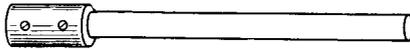

FIG. 11-10. A volume-control extension shaft.
2. *Length of shaft.* The shaft of the replacement control may be longer but not shorter than the original. The excess can be cut off. If the original has an unusually long shaft, an extension shaft (see Fig. 11-10) may be used.